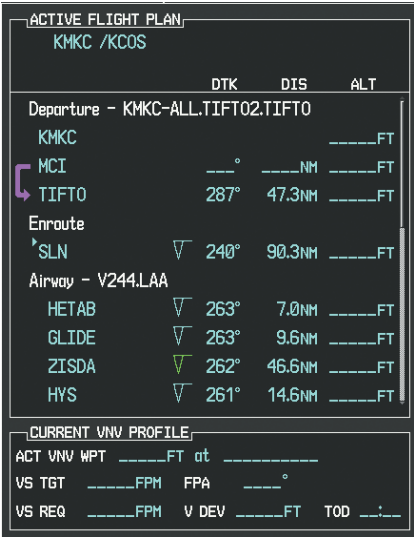

Figure 7-13 Begin Adding V4 to the Flight Plan
- b) The desired entry point for V4 (TOP) must be entered. Turn the large **FMS** Knob to highlight the desired flight plan insertion point (SLN) as shown in Figure 7-13. When the V4 entry point (TOP) is inserted, it is placed immediately above the highlighted waypoint (SLN) as indicated by the insertion point indicator (small blue triangle).